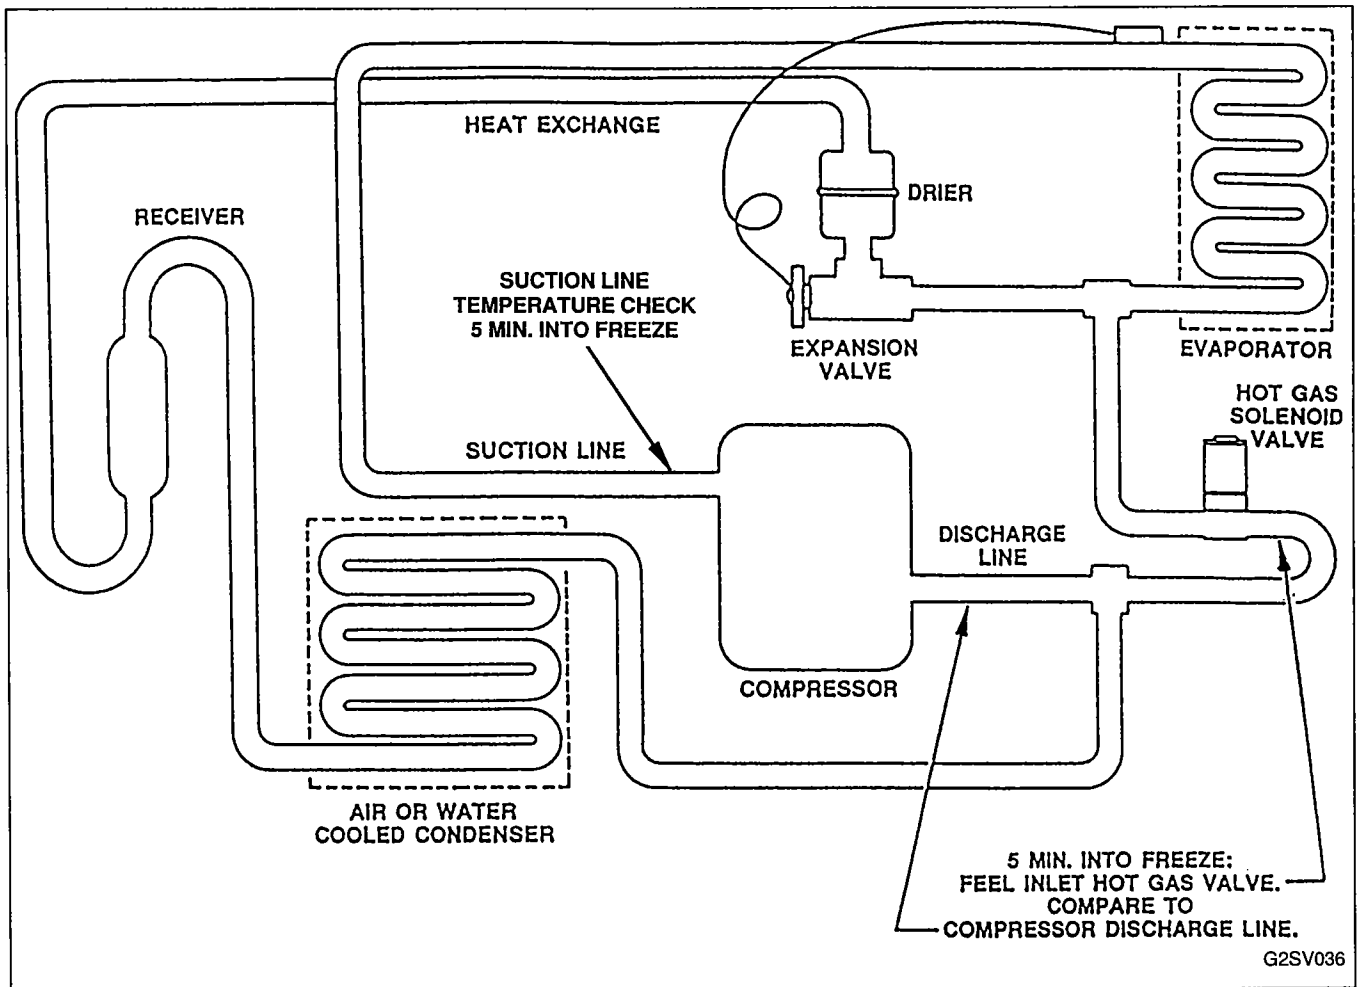

FIGURE 49. HOT GAS VALVE INLET FEEL CHECK/SUCTION LINE TEMPERATURE CHECK
- b. Check procedures (Figure 49, page 55).
Suction Line Temperature Check (Figure 49, page 55).